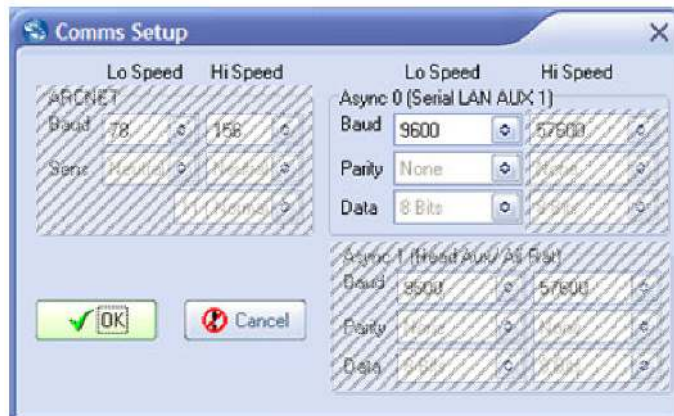

Figure 5.4. Comms Setup Dialog
This button will load the Comms Setup dialog. The only field that should be altered is indicated in Figure 5.4, “Comms Setup Dialog”.
1. Select the required baud rate from the list in the field indicated in Figure 5.4, “Comms Setup Dialog”.